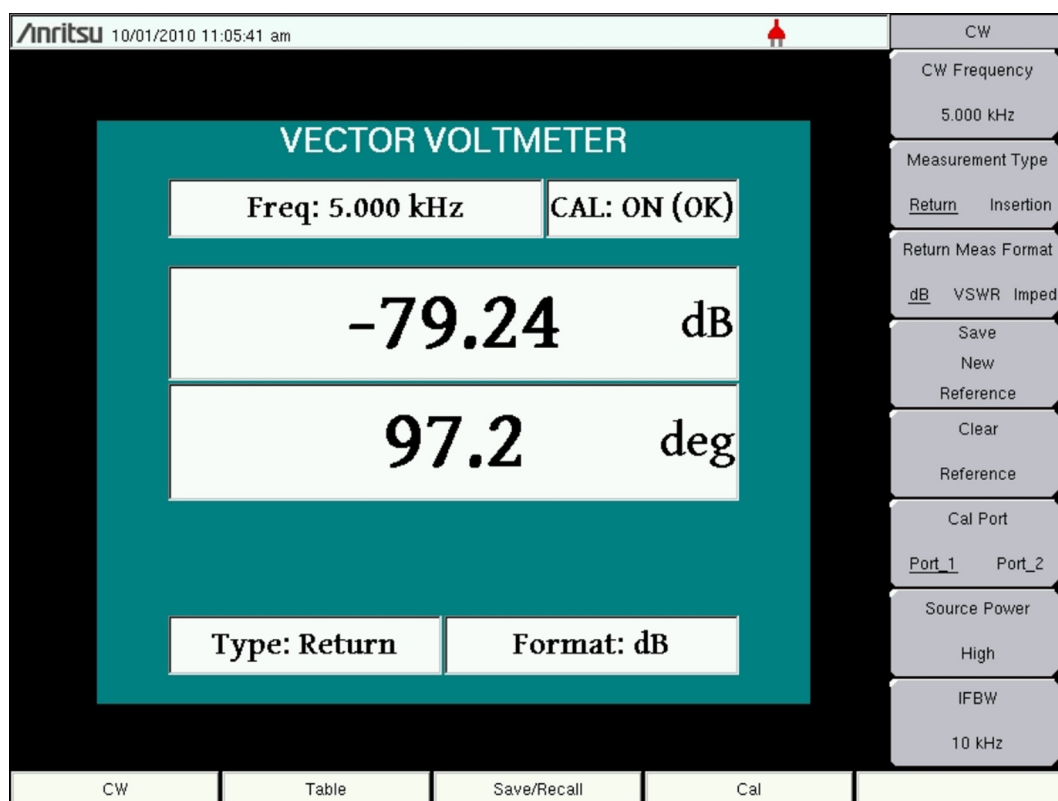

Figure 11-4. Continuous Wave Menu – MS20xxC VNA Master
10. Connect the DUT for measurement at the desired Port. The display should appear similar to the image in Figure 11-4 on page 11-9. The measurements and display parameters on your instrument display may differ from those in this user guide.
When you choose the Measurement Type and the Cal Port, the Vector Network Analyzer compares these measurement settings with the current calibration. If a match is found, then the current calibration is applied to the measured data, and the Cal info box on the display (refer to Figure 11-4 on page 11-9) shows **"CAL: ON (OK)"**. If no match is found (for example, the calibration was for S_{11} , but the Cal Port is set to Port 2), then the display shows **"CAL: --"**. Adjusting the setting (the Measurement Type or the Cal Port) to match the calibration automatically applies the correction. The calibration correction can also be turned off manually under the Calibration menu by toggling the Cal Correction soft key from On to Off. In that case, the display shows **"CAL: OFF"**.